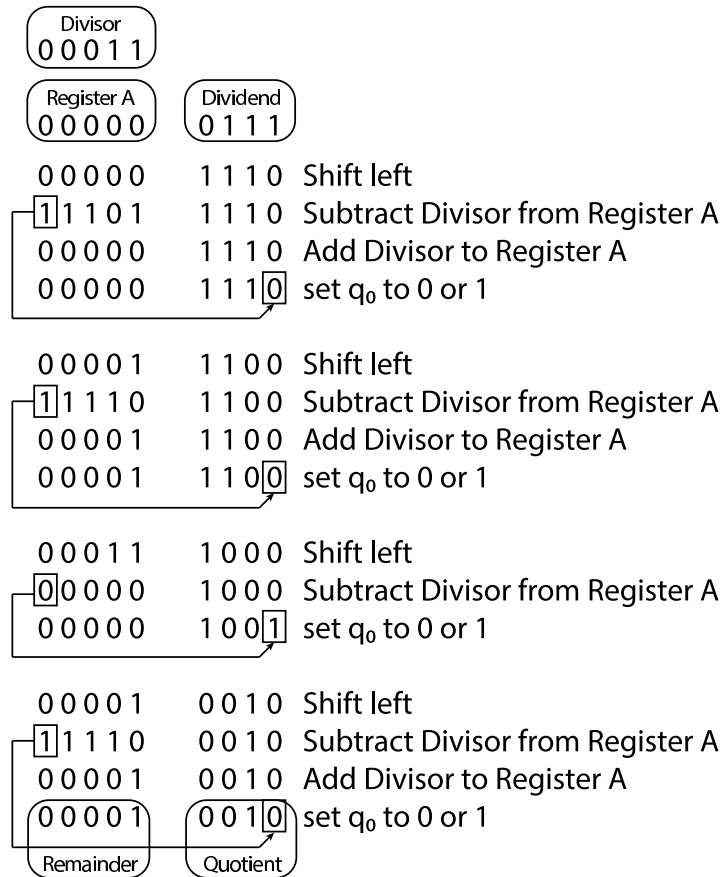
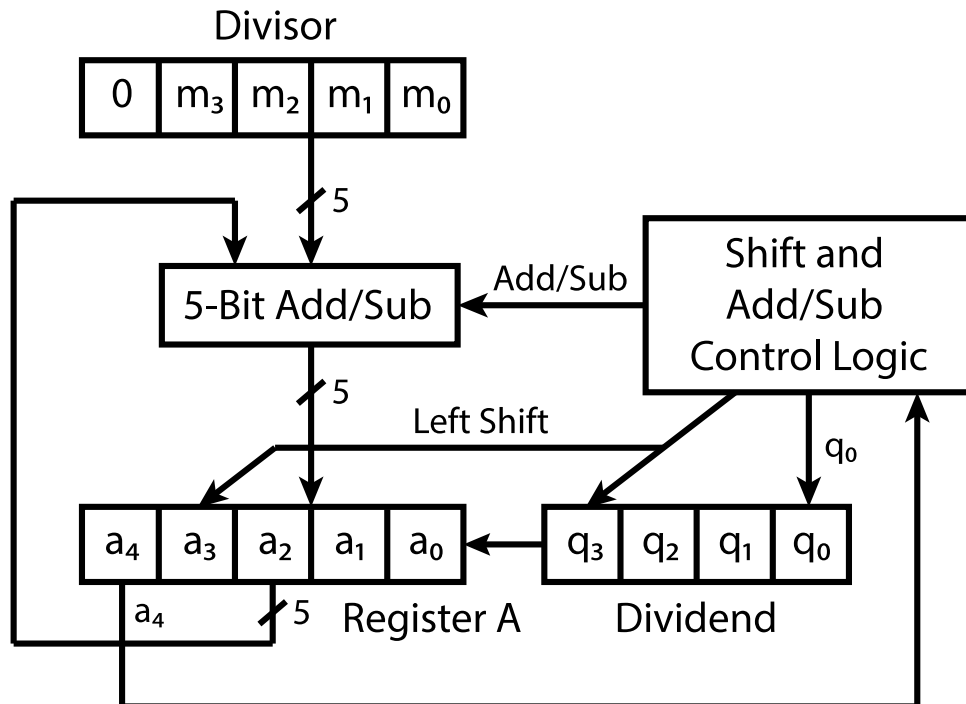

Figure 5: An example of how a restoring divider works.
Figure 6: Block diagram of restoring divider.
Figure 5 shows an example of how the restoring divider works. This mimics what you do when you do long division by hand. In this specific example, **number 7 (Dividend)** is divided by **number 3 (Divisor)**. The **restoring divider** starts with *Register A* set to 0. The *Dividend* is shifted left and the bit shifted out of the left most bit of the *Dividend* (called the most significant bit or MSB) is shifted into the least significant bit (LSB) of *Register A* as shown in Figure 6.
The *Divisor* is then subtracted from *Register A*. This is equivalent to adding the 2's complement of the *Divisor* (11101 for the example in Figure 5) to *Register A*. If the MSB of *Register A* is a 1, then we restore *Register A* back to its original value by adding the *Divisor* back to *Register A*, and set the LSB of the *Dividend* to 0. Else, we do not perform the restoring addition and immediately set the LSB of the *Dividend* to 1.
1. Draw a schematic for the datapath of your circuit. It will be similar to Figure 6. You should show how you will initialize the registers, where the outputs are connected to, and include all the control signals that you require.